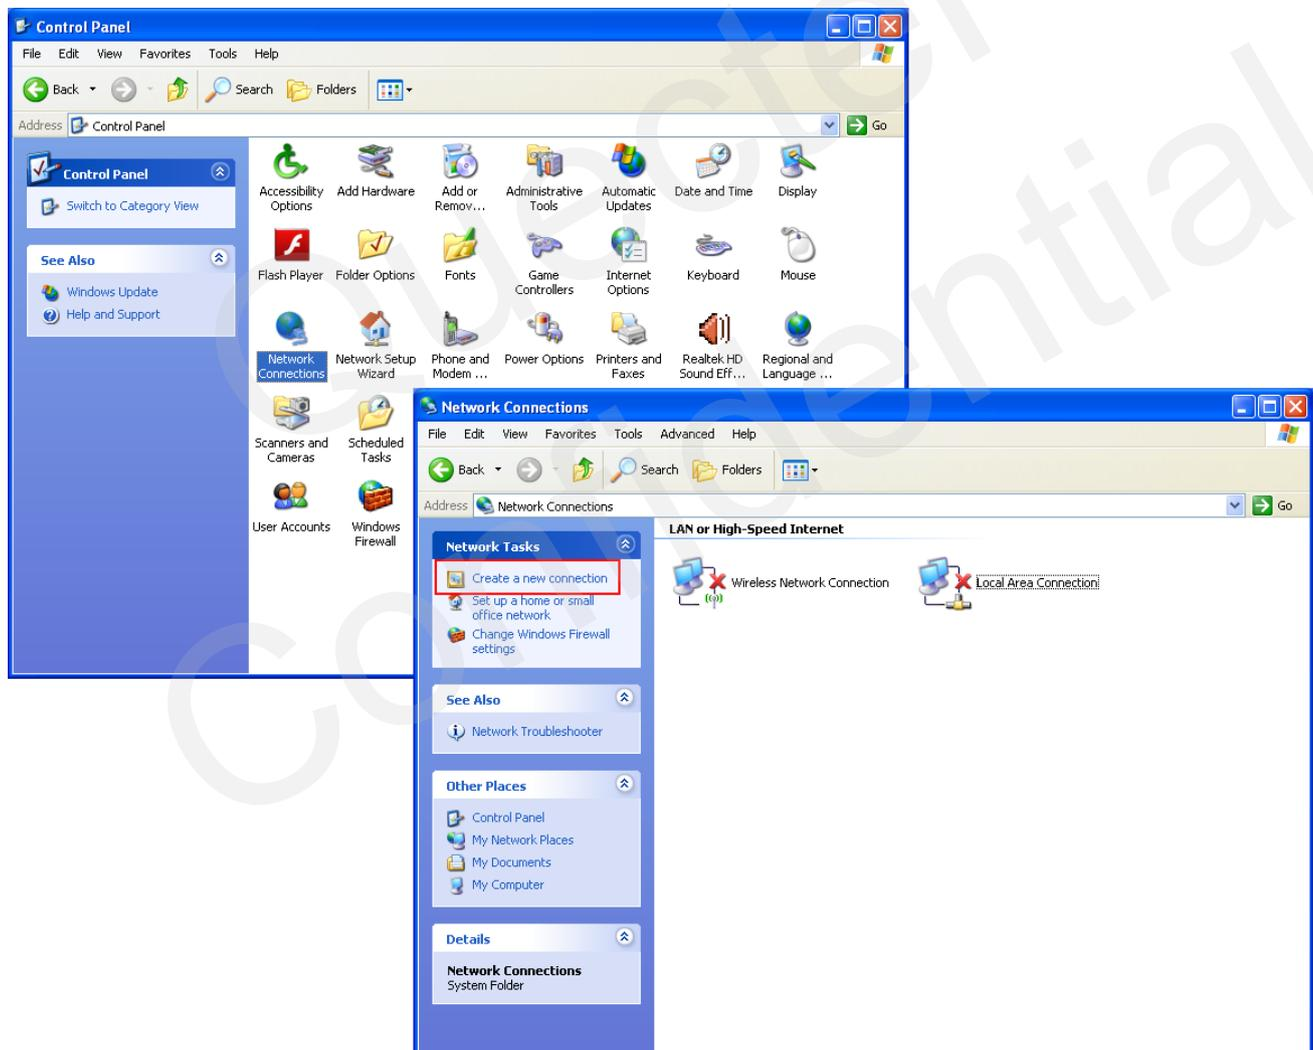

Figure 10: Create a New Connection
1. Open **Control Panel** and double click **Network Connections**, and then click **Create a new connection** from the right list of Network Tasks. Refer to **Figure 10**.